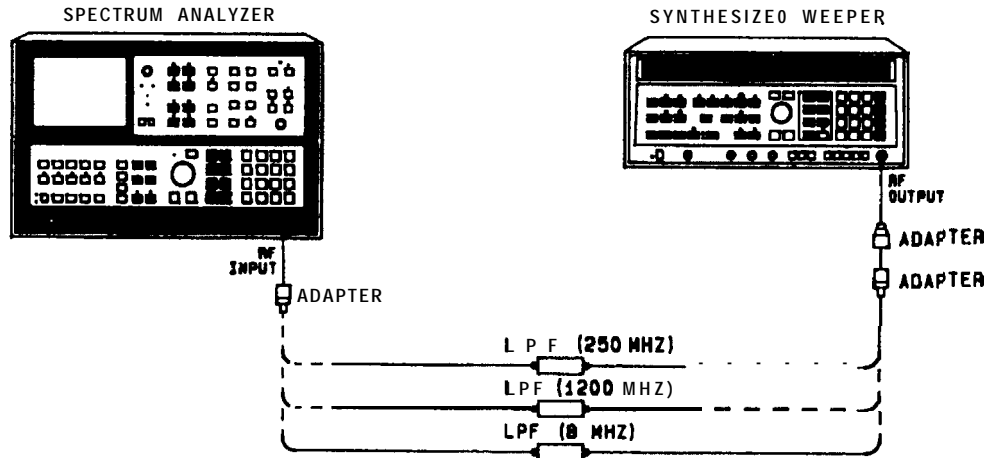
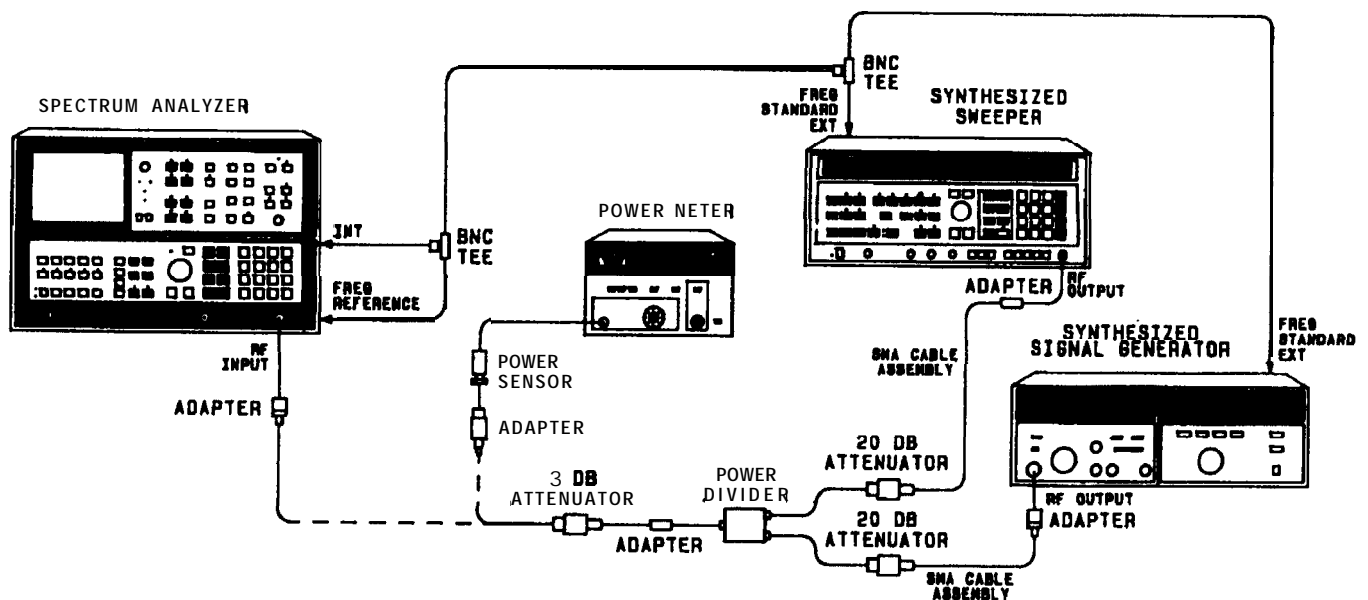

Figure 2-28. Harmonic Distortion Test Setup
Figure 2-29. Intermodulation Distortion Test Setup
Equipment listed is for two test setups, Figure 2-28 and Figure 2-29.
3. Connect equipment as shown in Figure 2-28, using the 250 MHz low-pass filter. Adjust the synthesized sweeper output level to place peak of signal trace at the top graticule line.
27. Connect equipment as shown in Figure 2-29 with “output” of power divider connected to power sensor. The **FREQ REFERENCE** switch on the rear panel of the analyzer should be set to **INT** and the **FREQ REFERENCE** switch on both synthesized source rear panels should be set to **EXT**.
31. Connect output of power divider to analyzer RF INPUT as shown in Figure 2-29.
42. Connect the output of the power divider to the power sensor as shown in Figure 2-29.
44. Connect the output of the power divider to the analyzer input as shown in Figure 2-29.